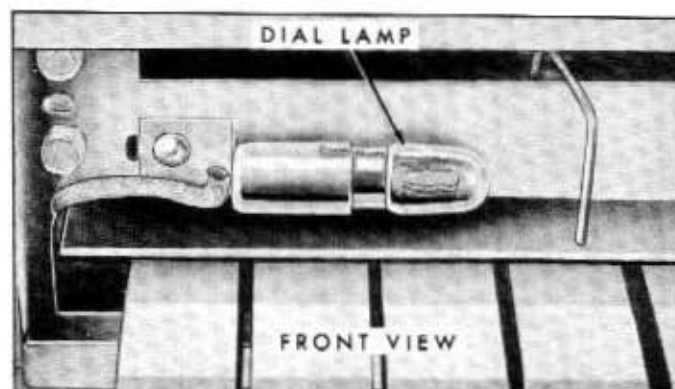

Fig. 12-2—Dial Lamp Location—(60C-7801)
1. Remove the radio from the car, and remove the dial and retaining plate. See figure 12-2.